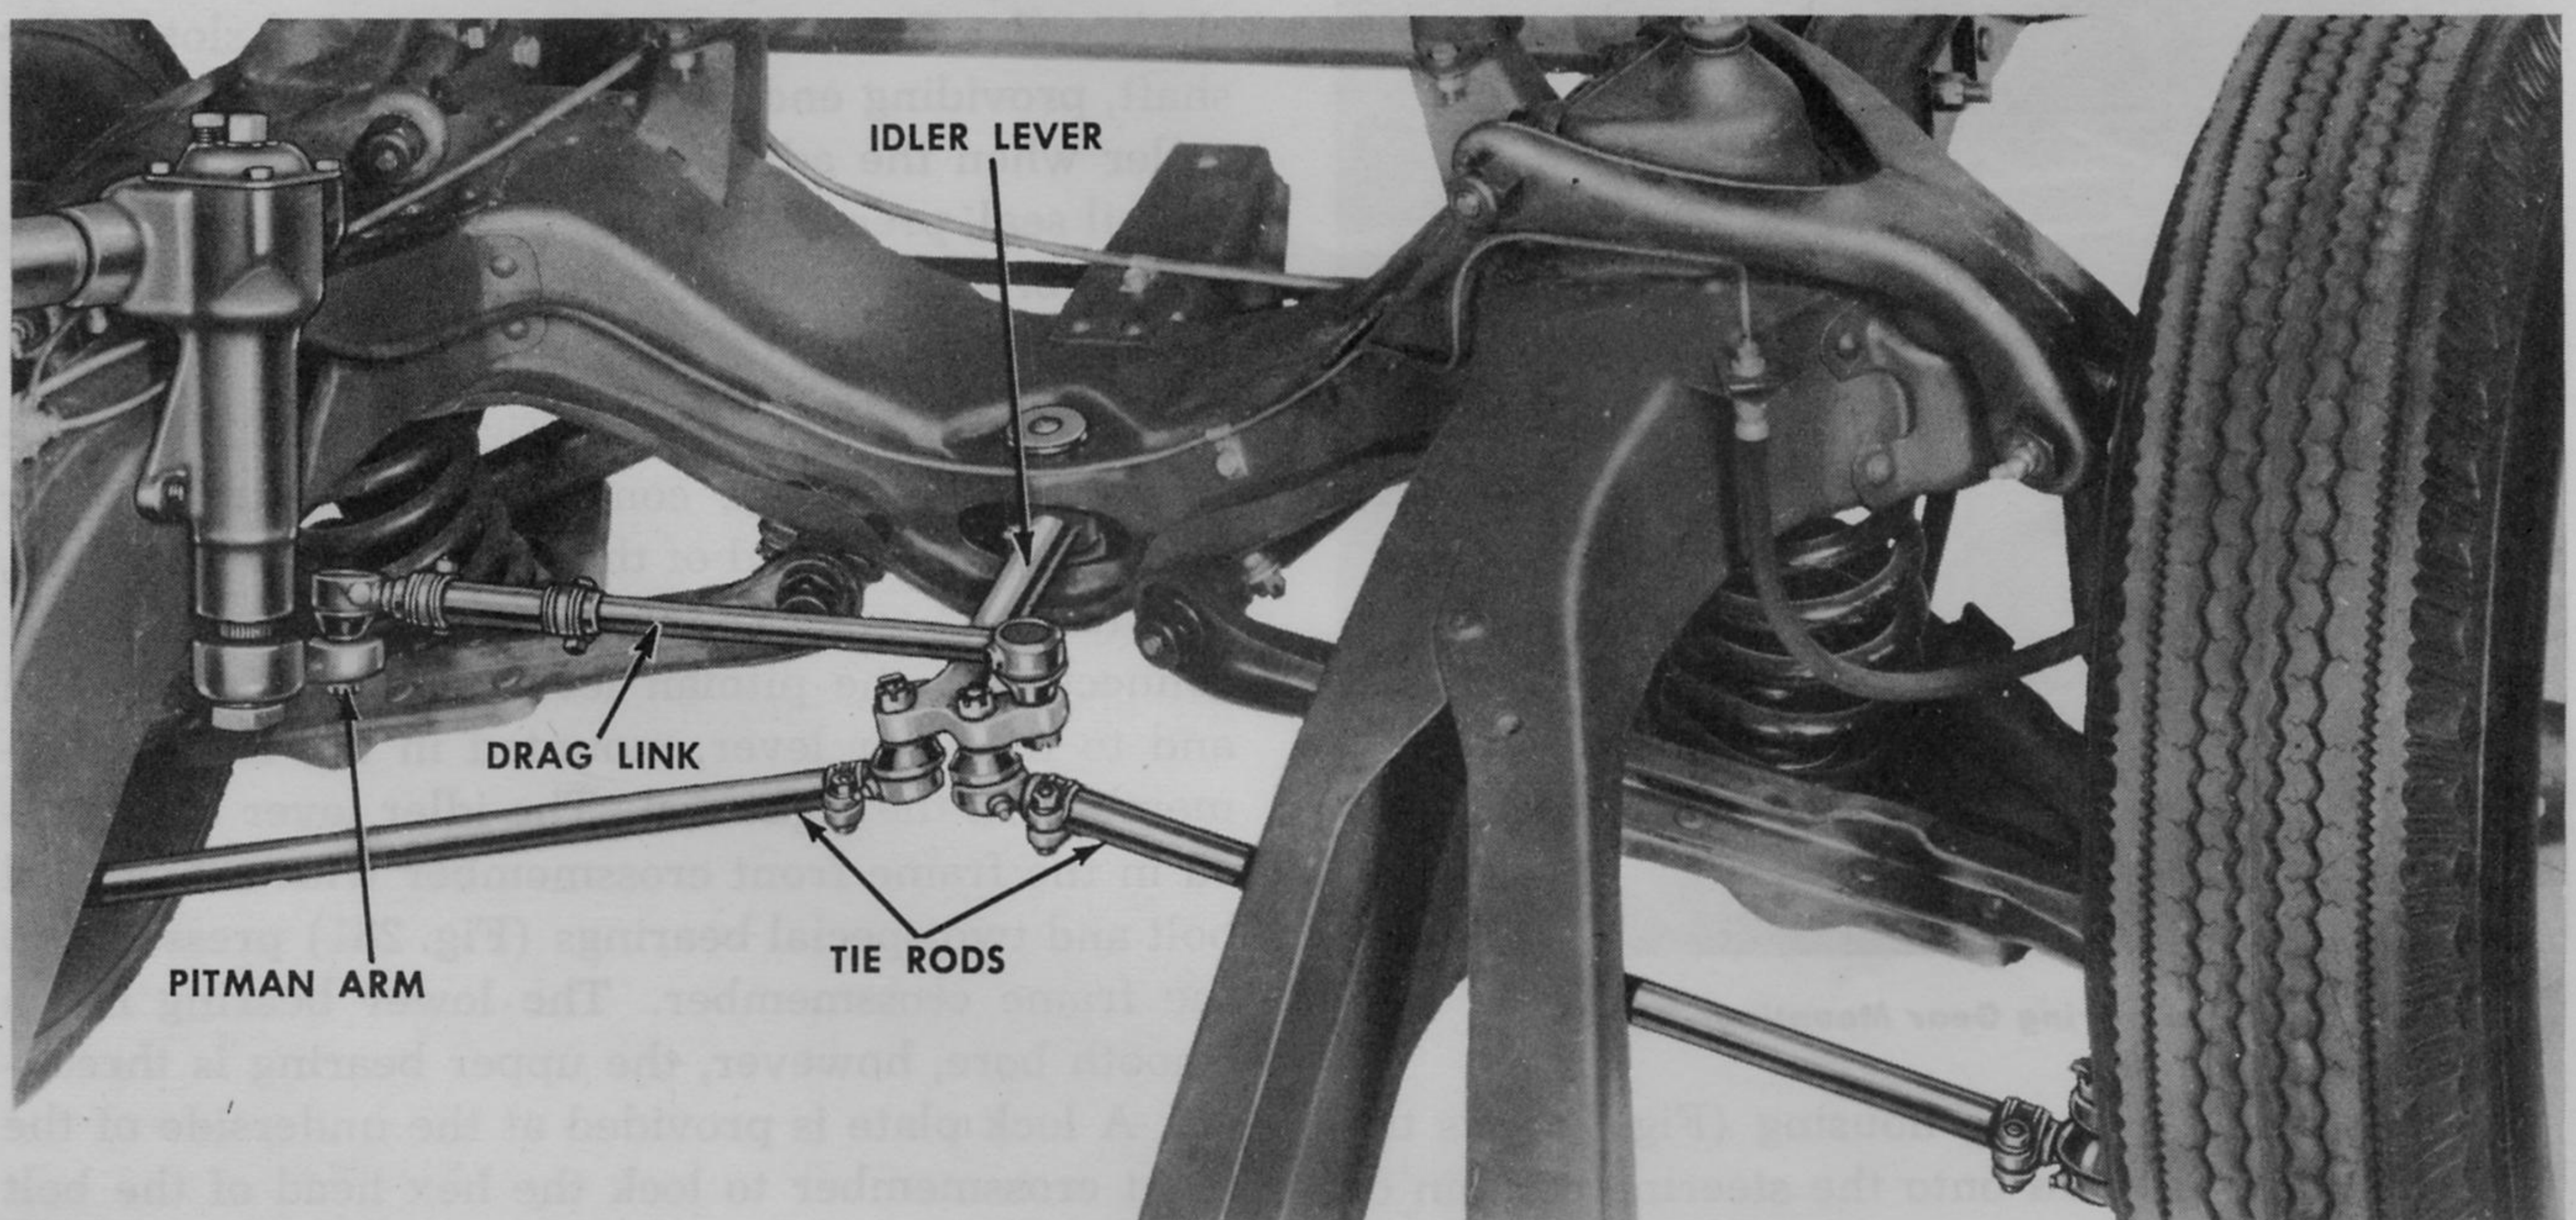
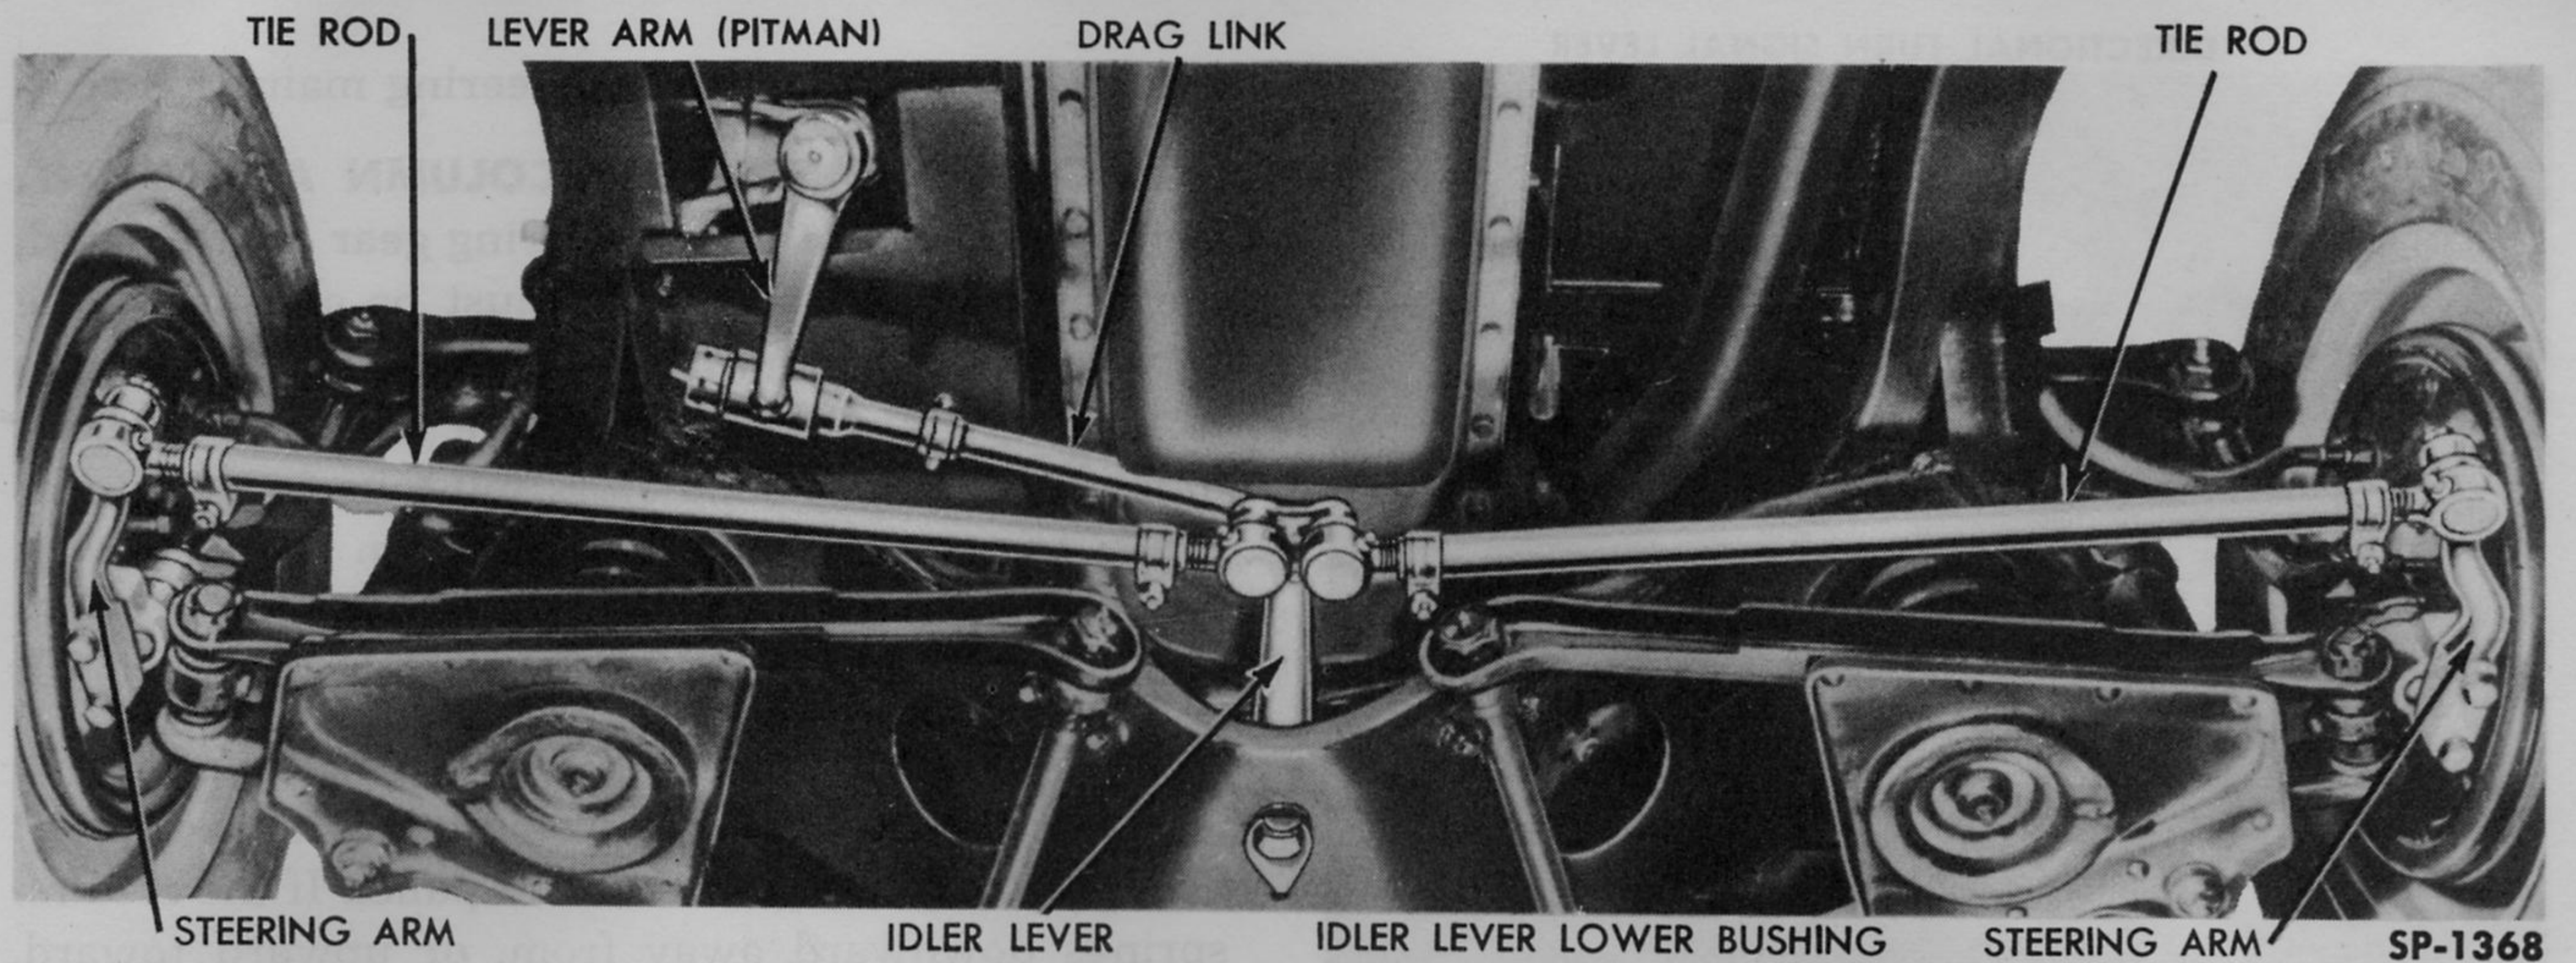
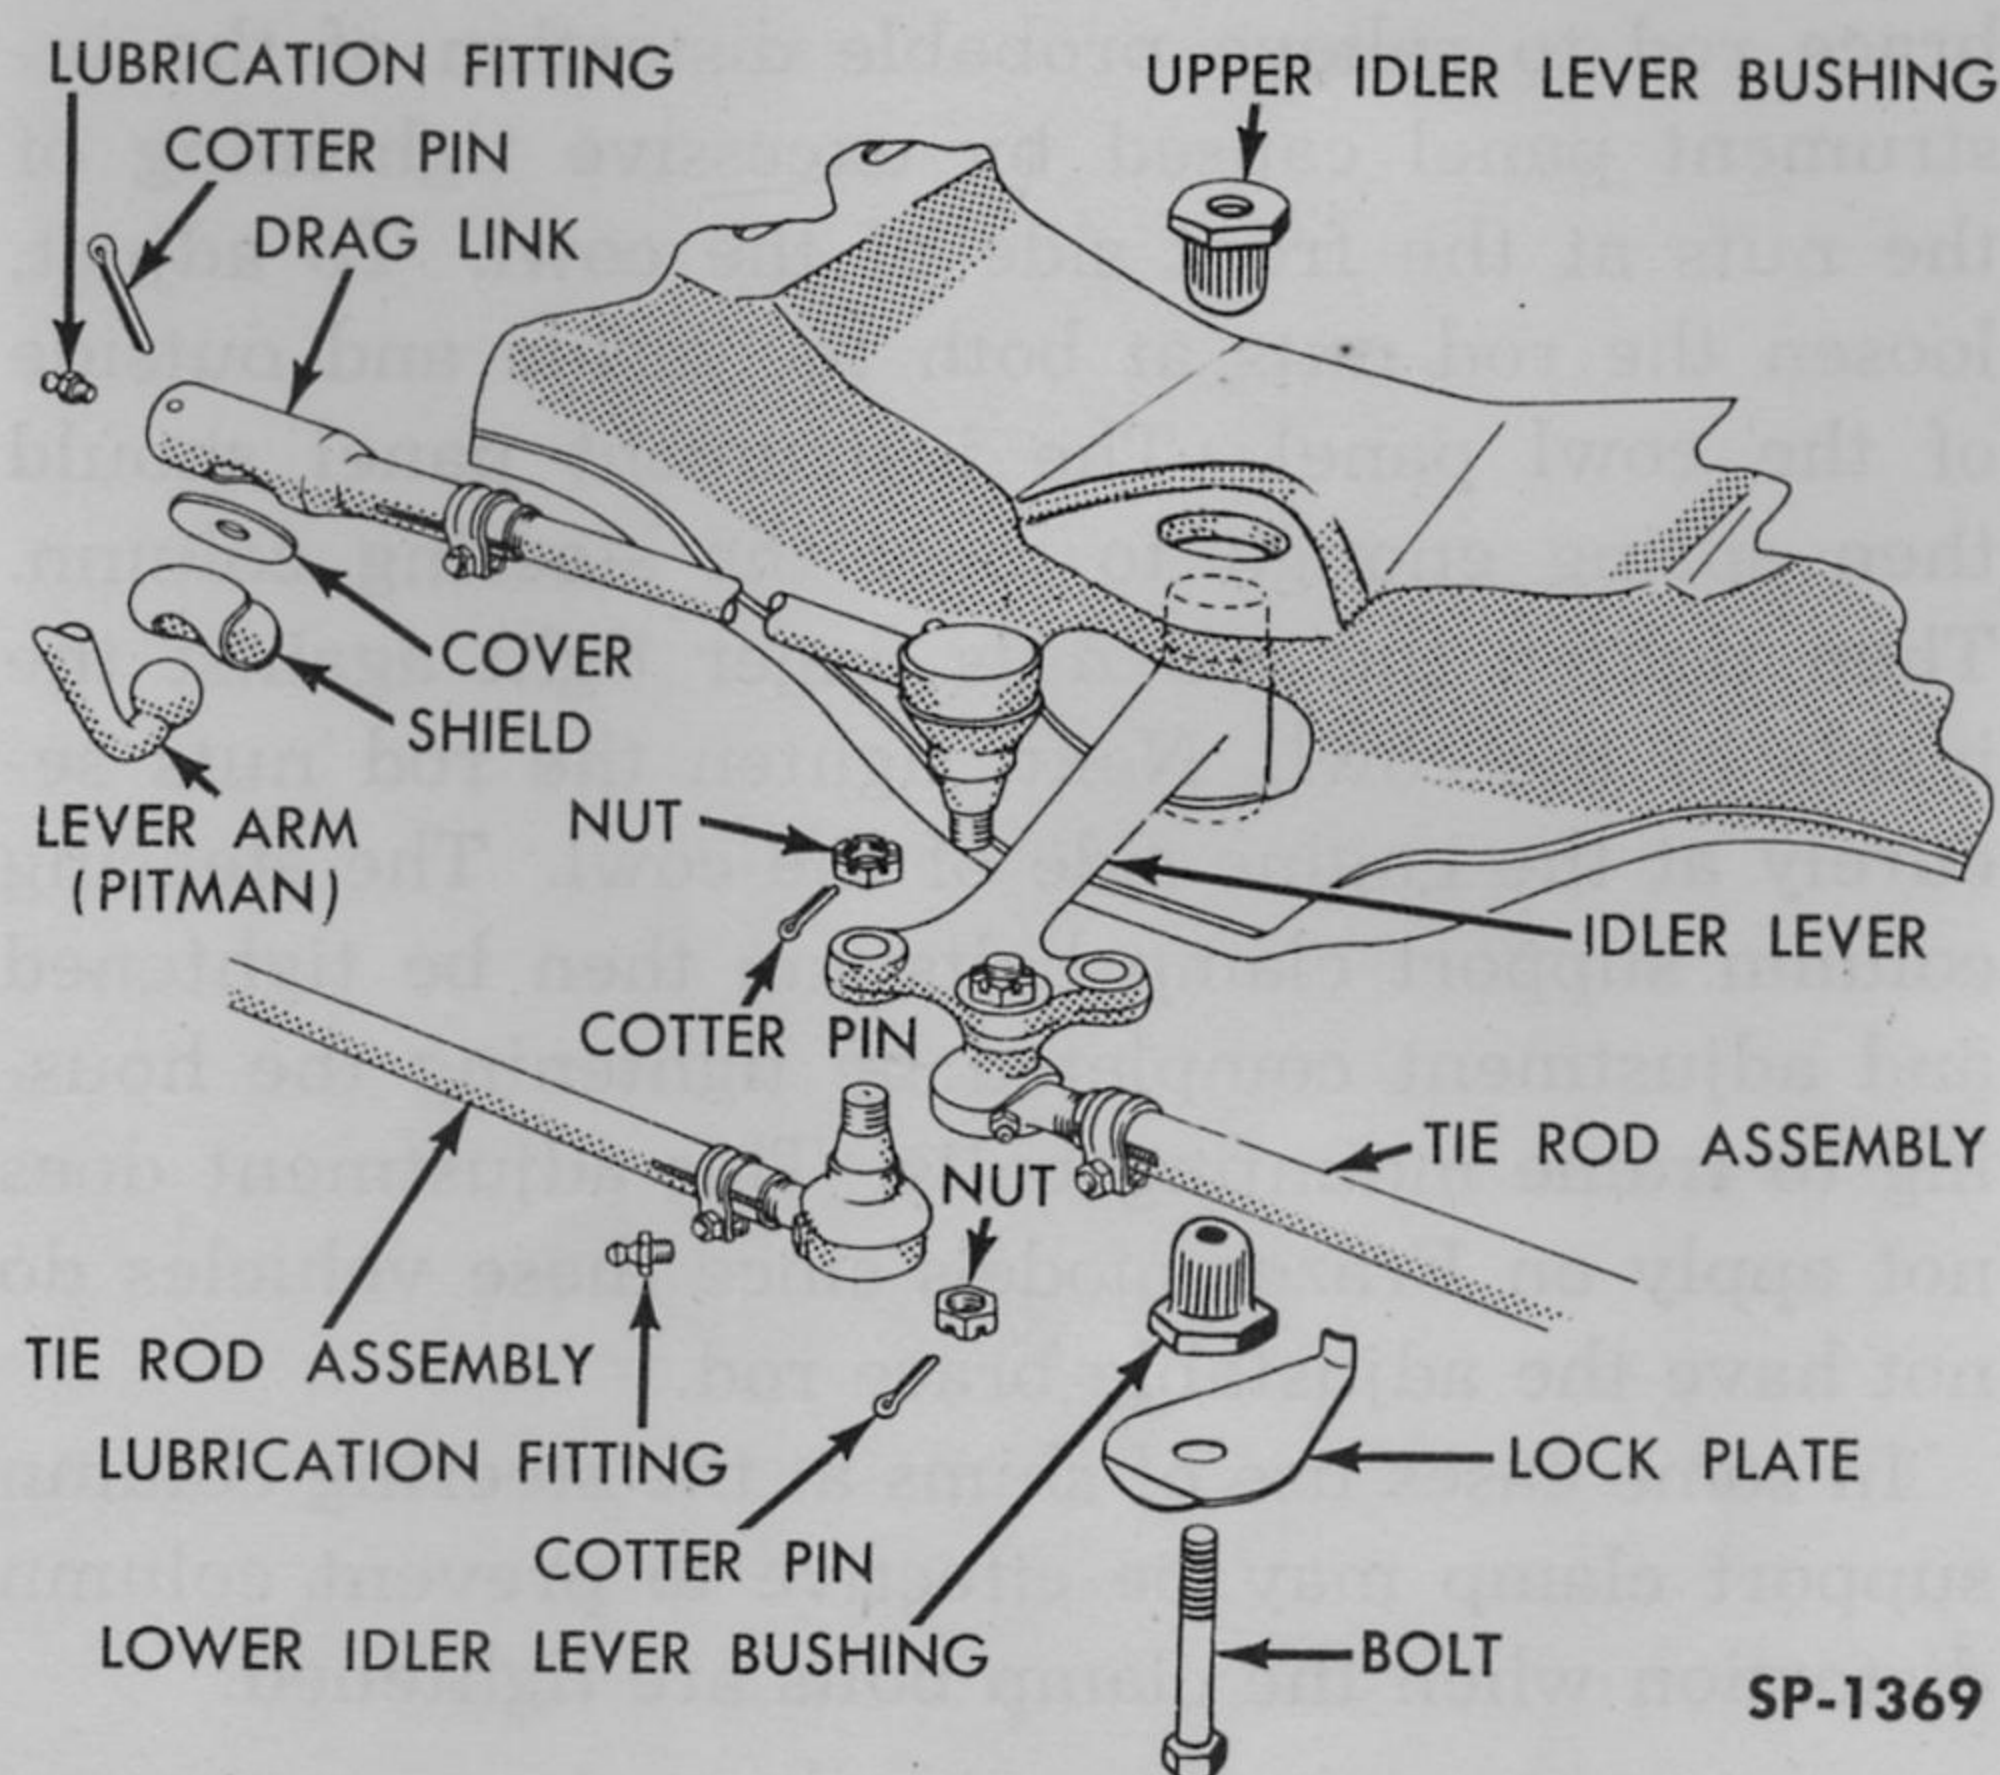
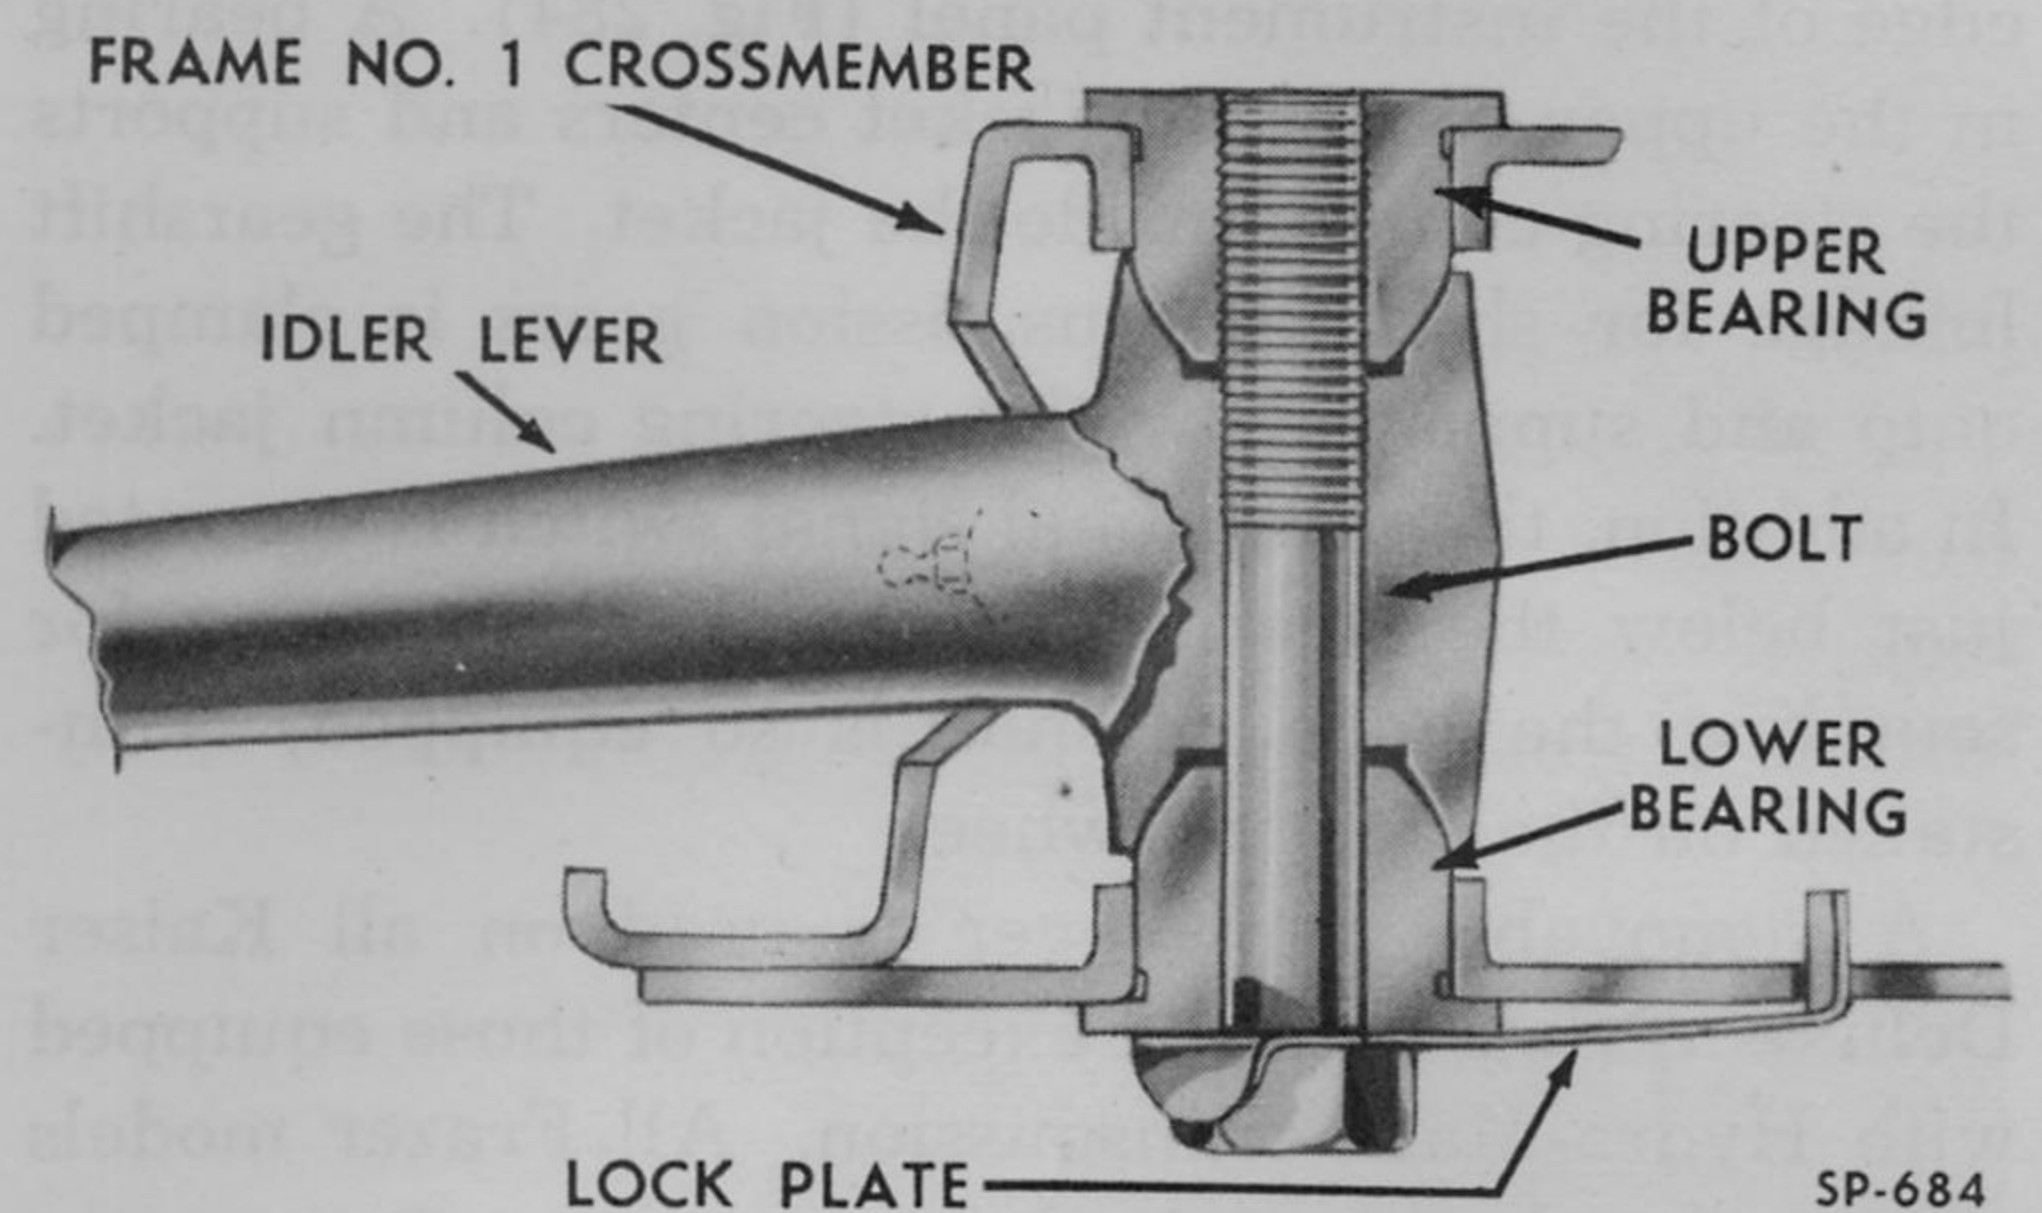

Fig. 279—Steering Gear Linkage Installed—Kaiser
Fig. 280—Steering Gear Linkage Installed—Frazer
Fig. 281—Steering Linkage Components at Idler Lever—Exploded View—Frazer
Fig. 282—Sectional View of Steering Idler Lever
b. STEERING LINKAGE. (Fig. 279 and 280). The steering gear linkage consists of the pitman lever arm on the lower end of the roller shaft, a drag link, two tie rods and the idler lever. The drag link is connected to the pitman lever arm at the left end and to the idler lever, mounted in the front crossmember, at the right end. The idler lever is mounted in the frame front crossmember with a threaded bolt and two special bearings (Fig. 281) pressed into the frame crossmember. The lower bearing has a smooth bore, however, the upper bearing is threaded. A lock plate is provided at the underside of the front crossmember to lock the hex head of the bolt which is threaded into the upper bearing, as shown in Fig. 282.
late Kaiser vehicles, which connects to the pitman lever arm, is a spring loaded ball socket which is adjustable for wear (Fig. 280 and 283). Early Kaiser vehicles have a drag link with self-adjusting ball joints at both ends (Fig. 279). The drag link is also adjustable for length to provide a horizontal position of the steering wheel spoke and to locate the steering gear at the center of its travel when the front wheels are in a straight-ahead position. The tie rods are both adjustable for length, providing a means of obtaining the proper toe-in of the front wheels.